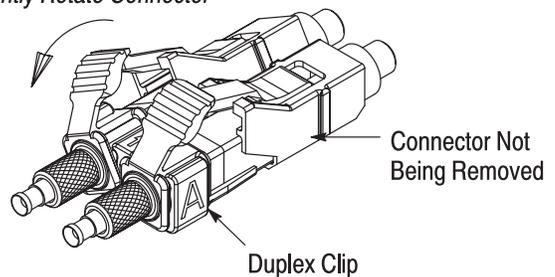

Figure 6
2. With the other hand, grasp the connector to be removed and, using a rotation motion, *gently* remove the connector from the opening. Refer to Figure 6.